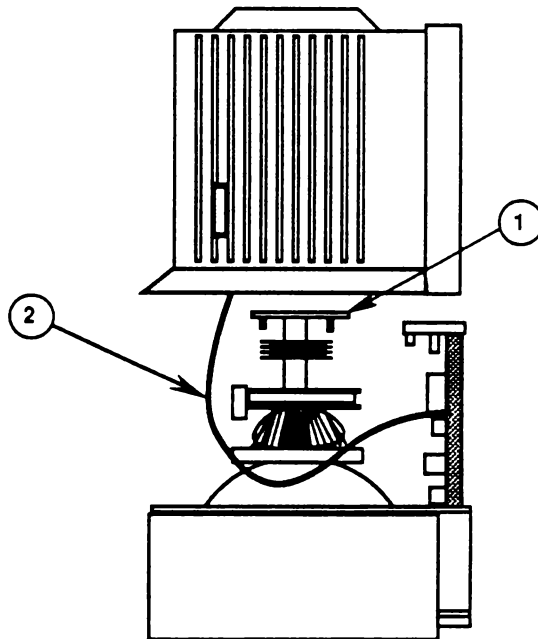

FIGURE 3
5. Carefully pull the rear cover up until it clears the CRT socket board (Figure 3, #1) at the end of the CRT neck.
CAUTION: Because the power (on/off) switch is attached to the rear cover, the power switch cable (Figure 3, #2) will prevent you from removing the cover completely until the on/off switch bracket is disconnected from the rear cover, as directed in step 8.